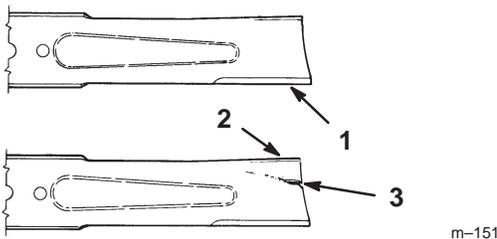

Figure 32
1. Inspect the cutting edges (Fig. 32). If the edges are not sharp or have nicks, remove and sharpen the blades; refer to Sharpening the Blades, page 30.
2. Inspect the blades, especially the curved area (Fig. 32). If you notice any damage, wear, or a slot forming in this area (item 3 in Fig. 32), immediately install a new blade.